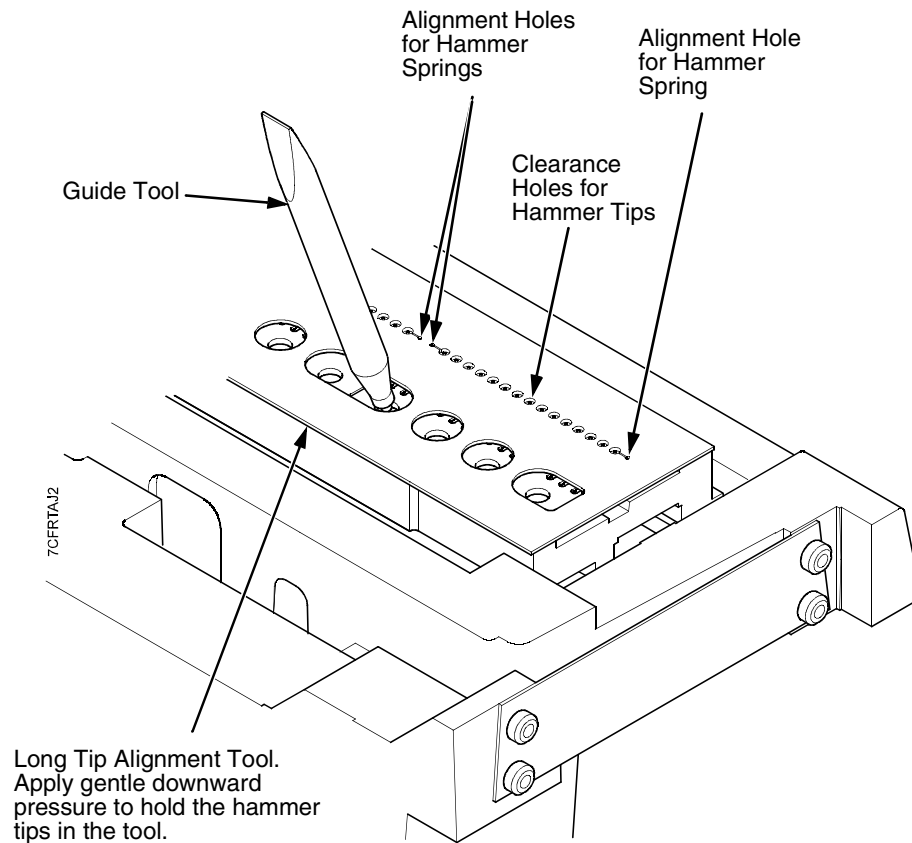

Figure 31. Using the guide tool to maneuver the hammer tips into the alignment tool holes.
5. Apply a gentle, continuous downward pressure to the alignment tool and gently swivel the guide tool in the hammer spring mounting holes to maneuver the hammer tips into the clearance and alignment holes in the alignment tool. You will feel and/or hear a small “click” when the hammer tips slip into the holes. (See Figure 31.)